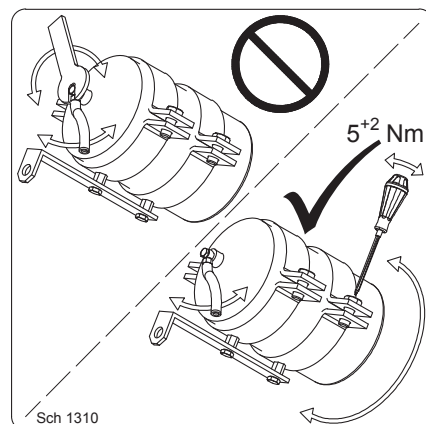

Fig. 20: 'SCH 1310' nameplate
1. Sufficiently loosen the pipe clamps by opening the tensioning screws; see information label on tank (Fig. 20, p. 32).